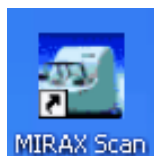

Fig. 5-1 **MIRAX software icon**
- Double-click the program icon (Fig. 5-1) on the desktop. A MIRAX control software session starts.